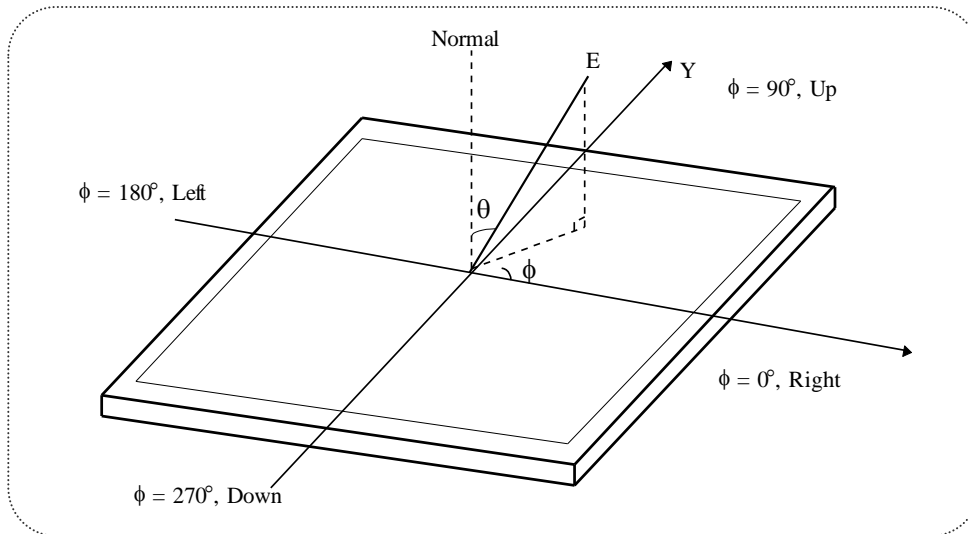
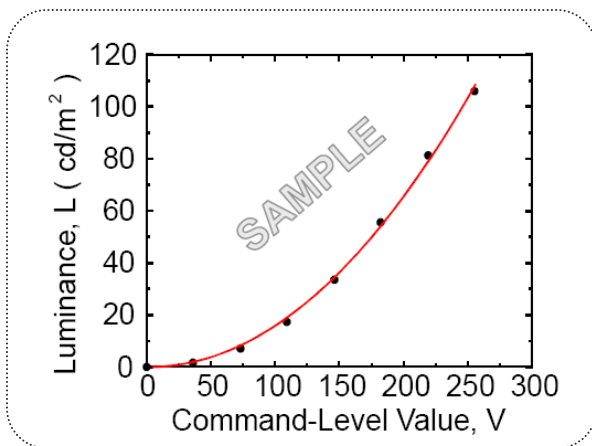

FIG. 8 Viewing angle
FIG. 9 Sample Luminance vs. gray scale
8. Effective viewing angle is the angle at which the gamma shift of gray scale is lower than 0.3. For more information see FIG 8 and FIG 9.